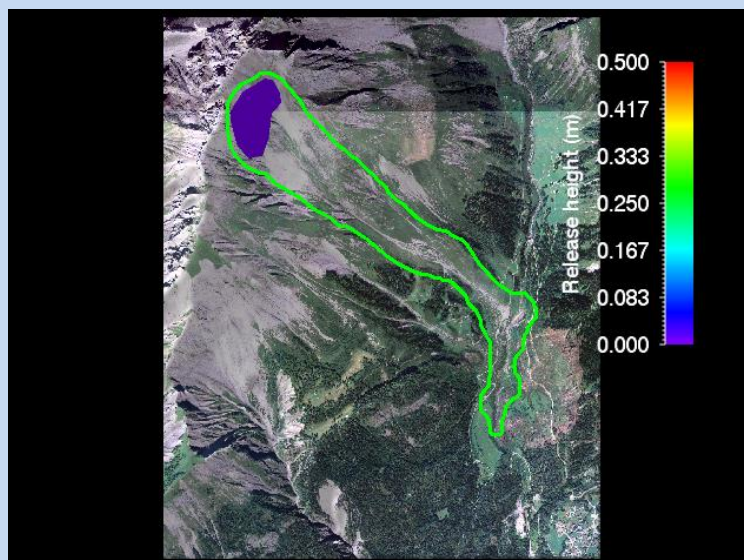

Figure 3-48: Input file with optimized calculation domain (envelope shapefile)
- Use *Input* → *Calculation Domain...* → *Load Existing Domain* to load your envelope shapefile as a new calculation domain, see Figure 3-48 below.